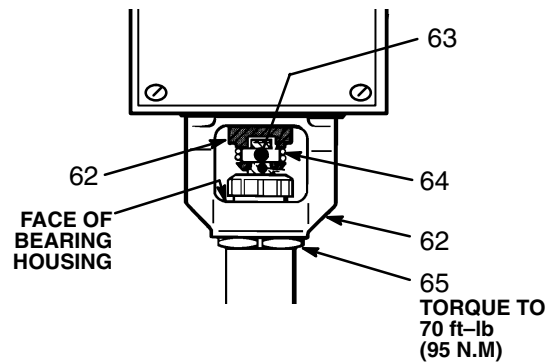

Fig 34-2
11. Screw the displacement pump 3/4 of the way into the bearing housing (62). Hold the pin (63) up to the pin hole in the connecting rod (60). Screw in the pump until the pin slides easily into the hole. Back off the pump until the top threads of the pump cylinder are flush with the face of the bearing housing and the outlet adapter (31) is facing back. Push the retaining spring (64) into the groove all the way around the connecting rod. Tighten the locknut (65) very tight – about 70 ft-lb (95 N.m) – with a 2-1/4 in. open end wrench and a light hammer. See Fig 34-2.
Be sure the retaining spring (364) is firmly in the groove all the way around, to prevent the pin (63) from working loose due to vibration. See Fig 34-2.